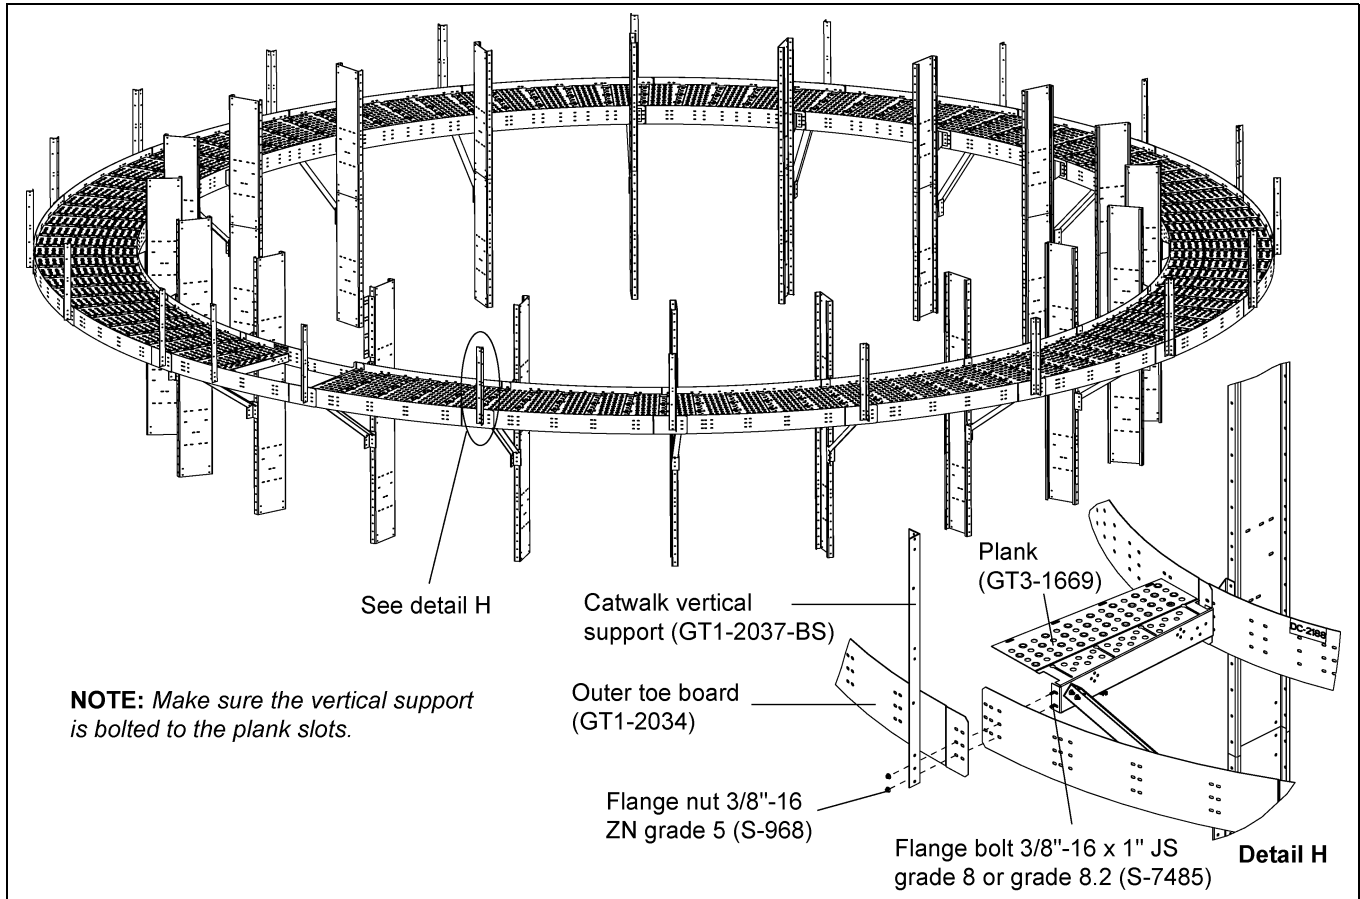
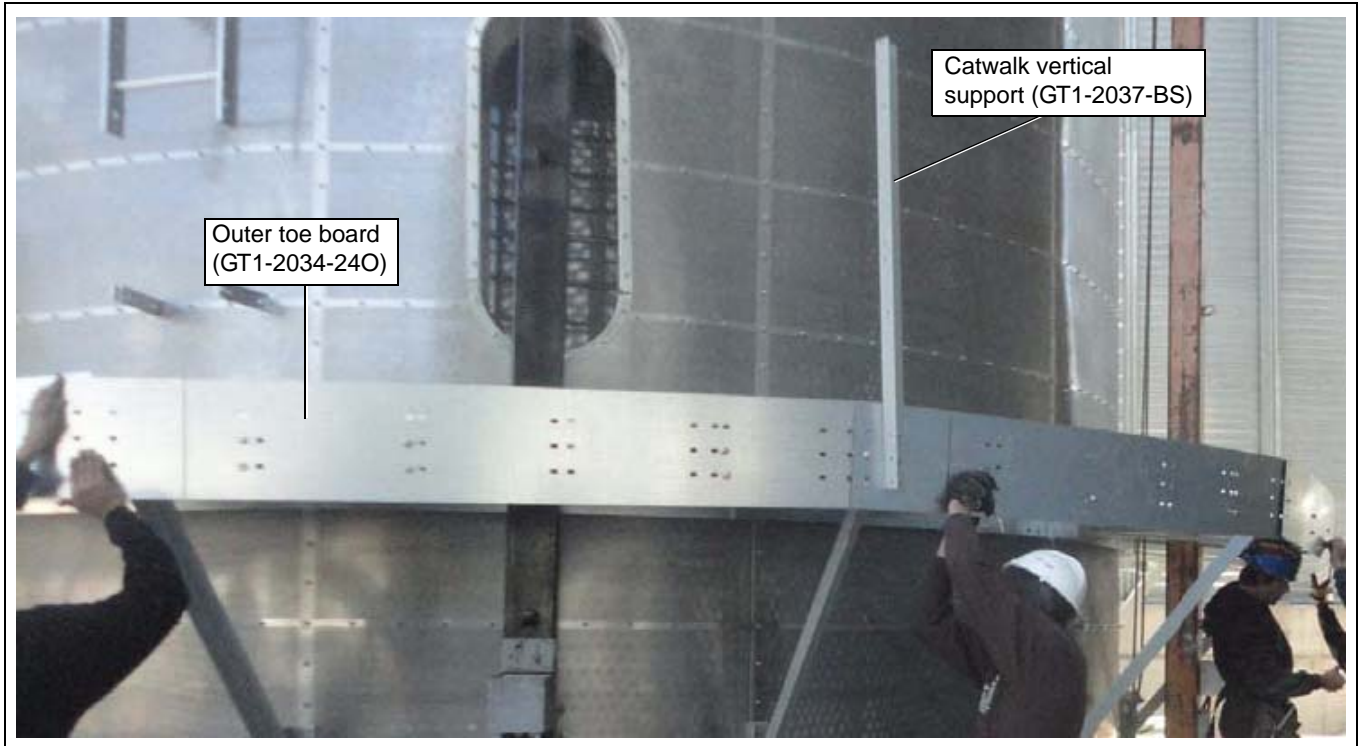

Figure 4R
Figure 4T
1. Install all the outer toe boards (GT1-2034-240) to the planks (GT3-1669). (See Figure 4R.)
2. When installing the outer toe board (GT1-2034-240) with planks (GT3-1669), install the catwalk vertical support (GT1-2037-BS) simultaneously at proper locations using 3/8"-16 x 1" JS grade 8 or grade 8.2 bolts (S-7485) and 3/8"-16 ZN grade 5 nuts (S-968). (See Figure 4R and Figure 4T on Page 25.)